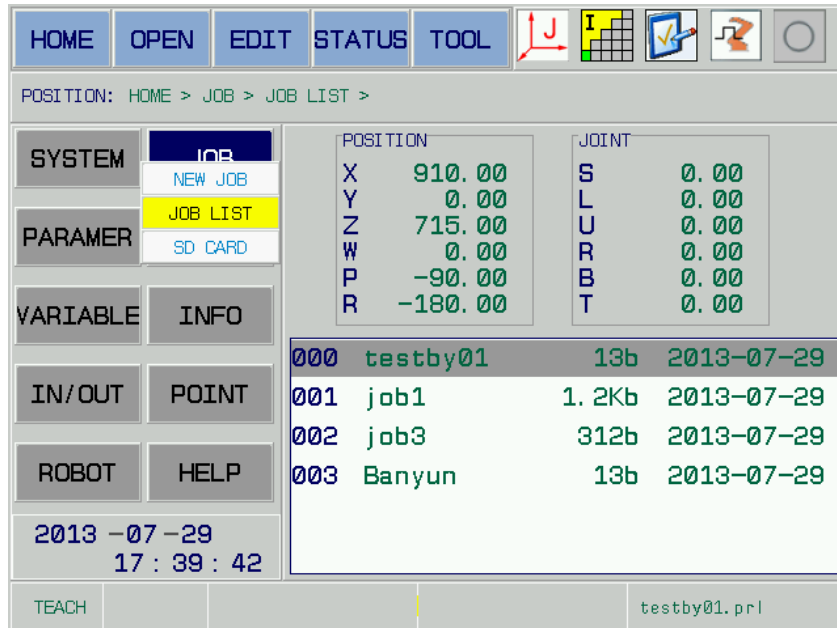

Fig. 5-6
1. Press the [TAB] and direction buttons in the {Main page} menu, shift the cursor to the {JOB} menu, and then open the {JOB} submenu by [SELECT]; refer to the Fig. 5-6.